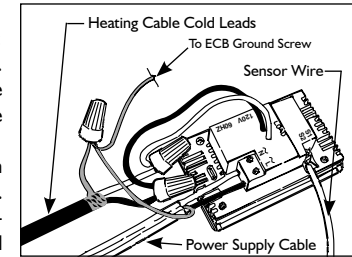

Fig. 5
4. Prepare each heating cable / cold lead for connection / splicing and connect per Figure 5 or Figure 6, as applicable. Use **Screw driver** for connection to the Power Supply cables and the sensor wire connections.